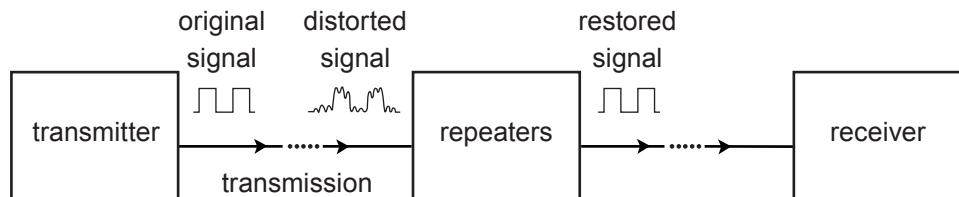

Figure 10.12 Restoring a distorted digital signal using repeaters
2. Digital signals can be restored to their original condition using repeaters as shown in Figure 10.12. This makes it possible to transmit information over long distances and makes digital systems more reliable.